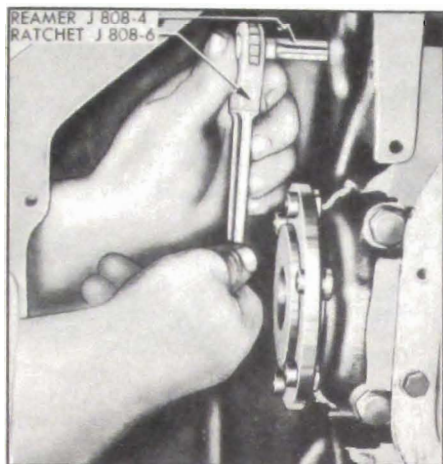

Figure 2-53—Reaming Dowel Pin Holes
6. Using Special Reamer J 808-4 and Ratchet Wrench J 808-6, ream the dowel holes and install two oversize dowel pins J 808-5. See figure 2-53.